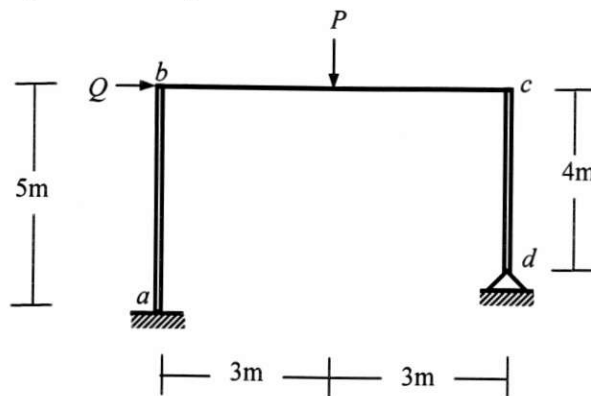

Fig. 9
- For the frame $abcd$ loaded as shown in Fig. 9, use the Energy Method to calculate the force (i) P needed to form beam mechanism, (ii) Q needed to form sidesway mechanism [Given: $M_{p(\text{column})} = 2M_{p(\text{beam})} = 200 \text{ kN-m}$].